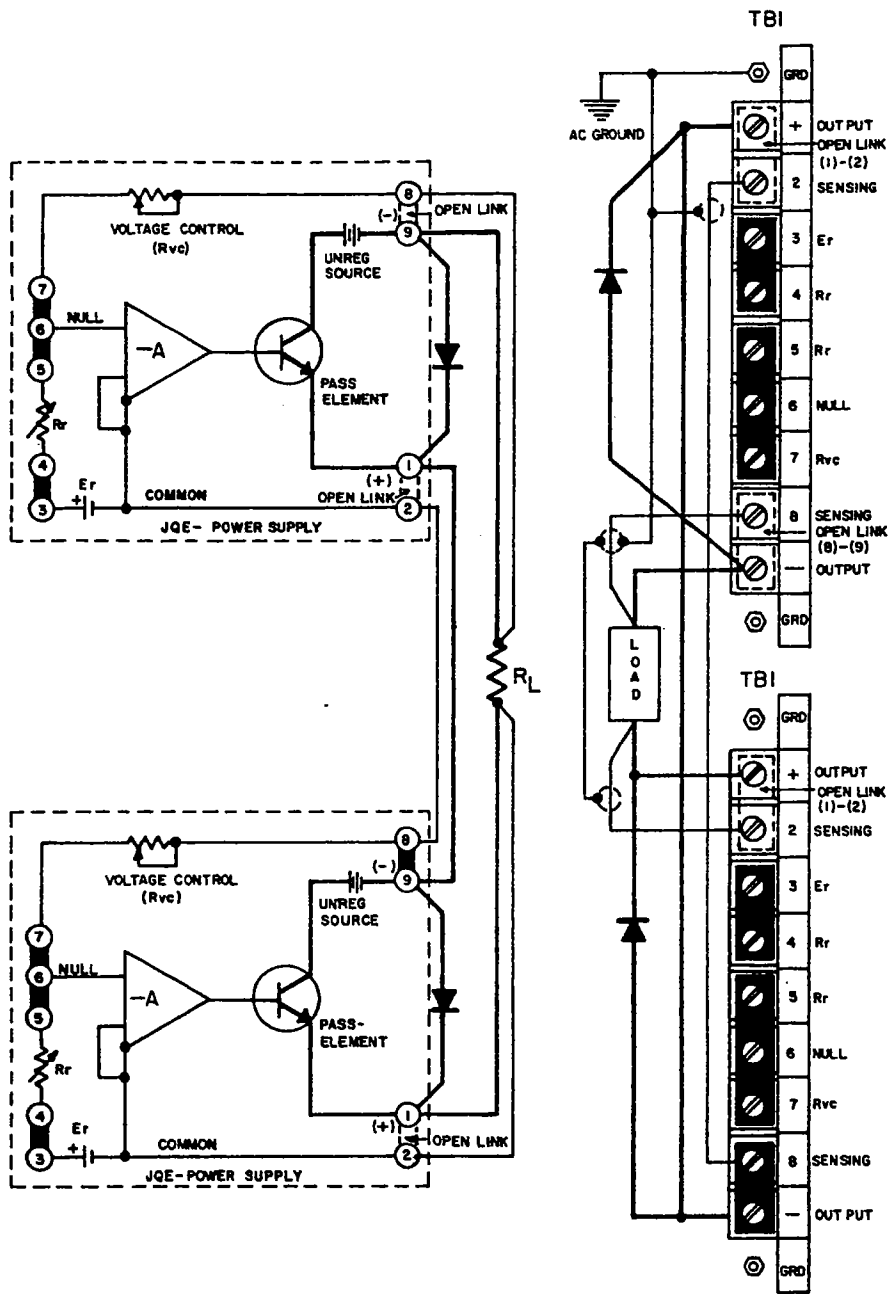
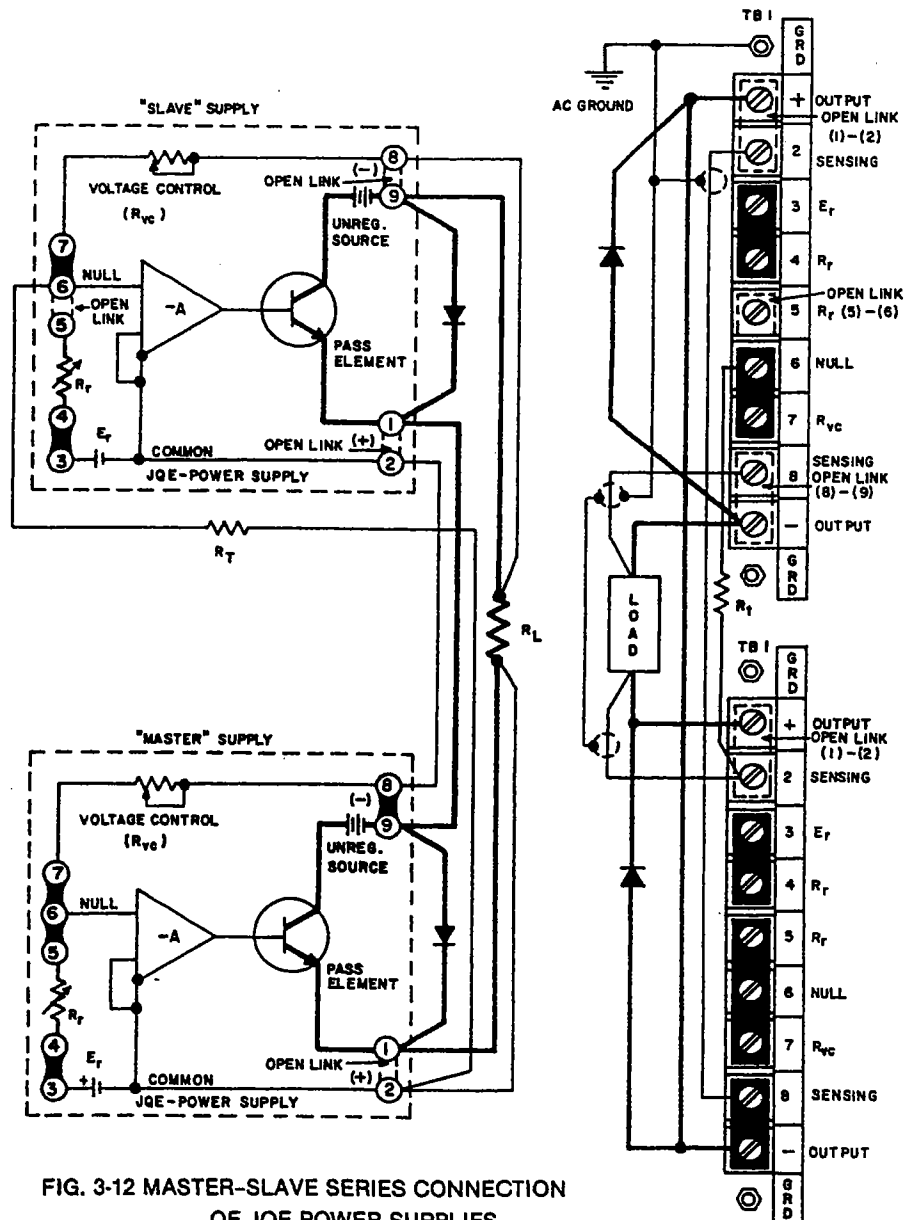

FIG. 3-11 AUTOMATIC SERIES CONNECTION OF JQE POWER SUPPLIES
FIG. 3-12 MASTER-SLAVE SERIES CONNECTION OF JQE POWER SUPPLIES
3-35 GENERAL. Kepco JQE Power Supplies can be series-connected for increased voltage output, provided the specified limits on voltage to chassis are not exceeded. When series-connected, the supplies should be protected by means of a semi-conductor diode across the output terminals of each power supply, as shown in FIG. 3-11. The peak inverse rating of these diodes must be at least as large as the output voltage of the supply to which they are connected. The continuous current rating of the diodes should be at least as great as the maximum output current of the interconnected supplies.
- a) Connect load as shown in FIG. 3-11. Keep voltage drop in load wires as low as practical by using heavy gauge wire.
3-37 An alternate method of series-connecting two or more power supplies is shown in FIG. 3-12. The basic difference between the "Automatic" series connection, shown in FIG. 3-11, and the "Master-Slave" connection (FIG. 3-12) is that with the former connection the outputs of both supplies may be controlled or programmed individually, while with the latter method only the "Master" supply is controlled, while the "Slave" supply follows the command of the "Master" in a ratio which may be pre-determined by the user. The "Master-Slave" series connection is therefore often termed an "Automatic Tracking" configuration.
As seen from FIG. 3-12, the reference voltage of the "Slave" supply is disconnected and its input (null junction) is connected (via R_t) to the output of the "Master" supply. Since the control current for the "Slave" supply is thereby derived from the "Master", the "Slave" output is thus completely dependent on the "Master" supply output:
As seen from the equation, if the tracking resistor (R_t) is made equal in value to the voltage control resistor of the "Slave" (R_{vcs}), a tracking ratio 1:1 is achieved, and the output of the "Slave" will equal that of the "Master". If a single load is connected to the series combination (FIG. 3-12), twice the "Master" output is applied to it. If separate loads are connected, identical voltages are applied to the individual loads. The ratio E_{os}/E_{om} can be readily changed if the application so requires by simply changing either R_{vcs} or R_t .
- Connect load(s) as shown in FIG. 3-12.